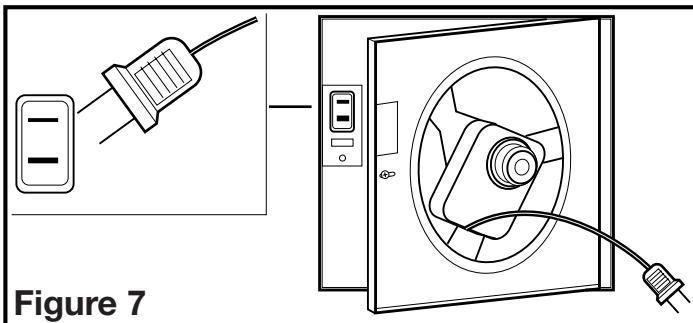

Figure 7
- Reinstall the fan's venturi by holding it at approximately a 45 degree angle, hook the two tabs on the venturi into the slots on the housing and secure in place by tightening the venturi screw. Rotate the blower wheel by hand to ensure it spins freely. Now plug the fan motor into the receptacle (**Figure 7**).